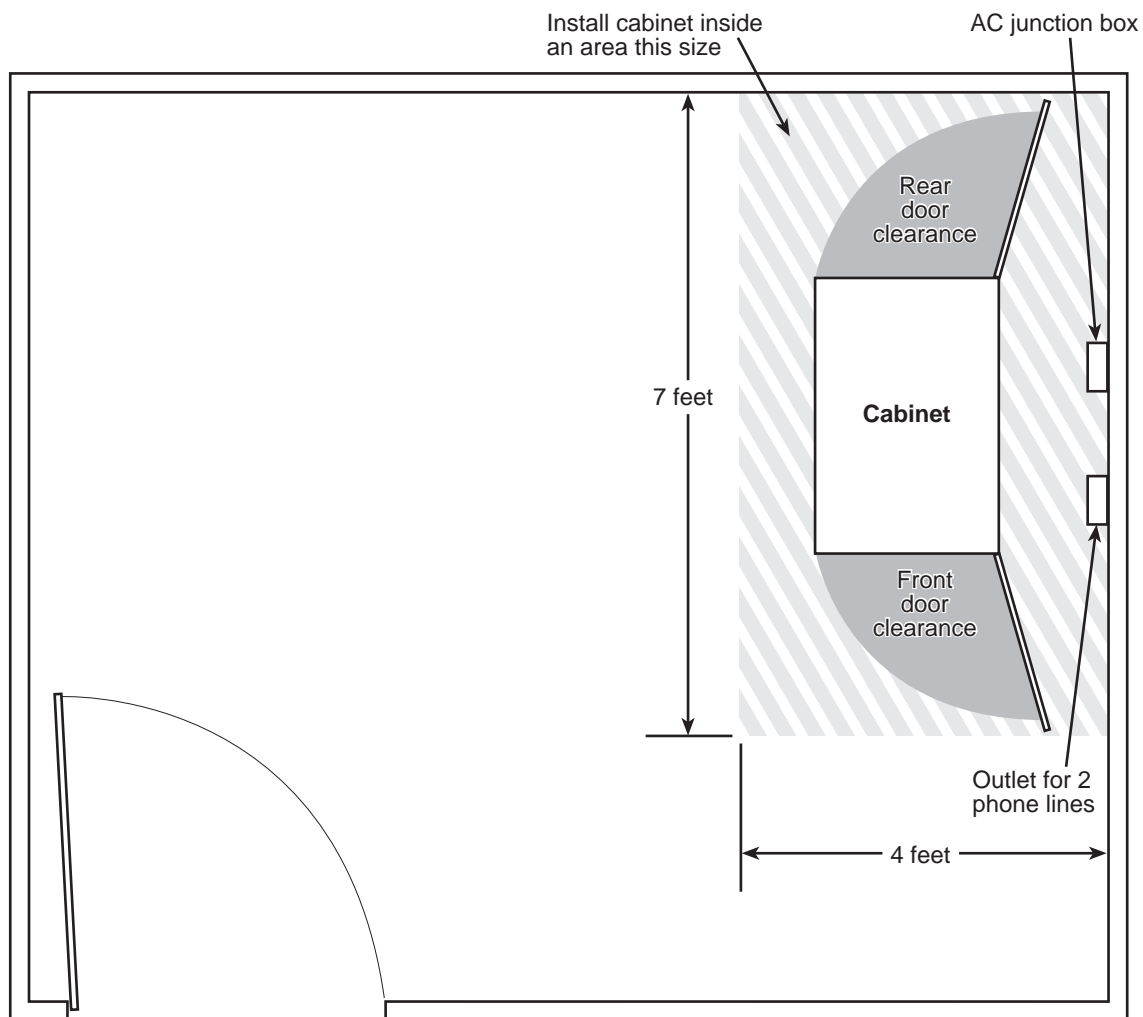

Figure 7. Typical Digital DataCatch site configuration
- A 4-foot by 7-foot area (see figure 7) where the cabinet will be installed in a room with a door that can be locked